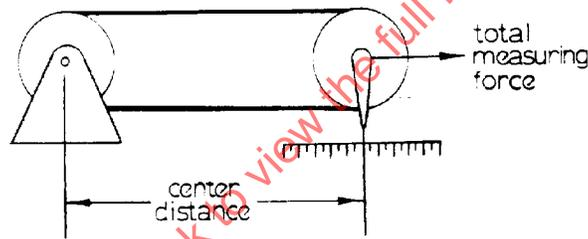
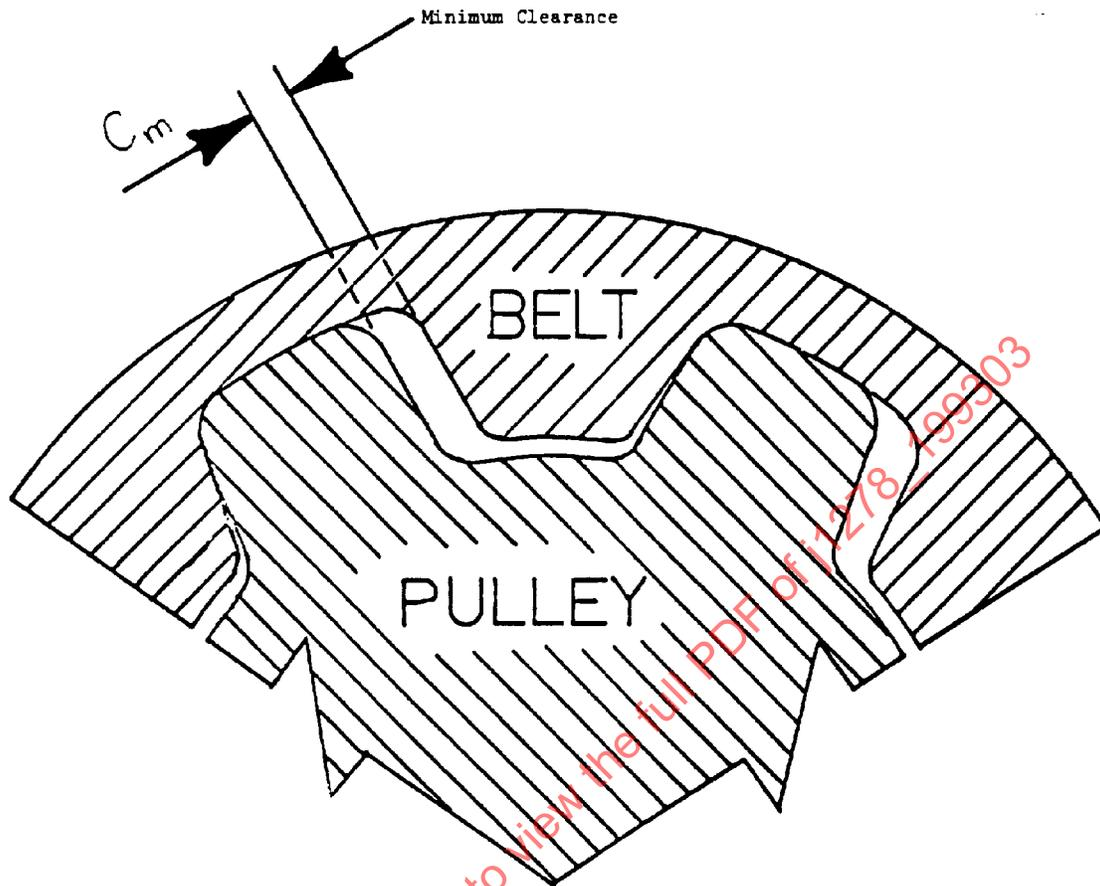

FIGURE 6—DIAGRAM OF FIXTURE FOR DETERMINING BELT PITCH LENGTH
FIGURE 7—CLEARANCE BETWEEN MEASURING PULLEY AND BELT
5.4 Length Determination—The pitch length of a synchronous belt shall be determined by placing the belt on a measuring fixture comprised of two pulleys of equal pitch diameter, a method of applying force and a means of measuring the center distance between the two pulleys. One of the two pulleys is in a fixed location while the other is movable along a graduated scale. The fixture is shown schematically in Figure 6. Measuring pulley dimensions and measuring force are specified in Table 5, Table 6, and Figure 7.
2. See Figure 7.